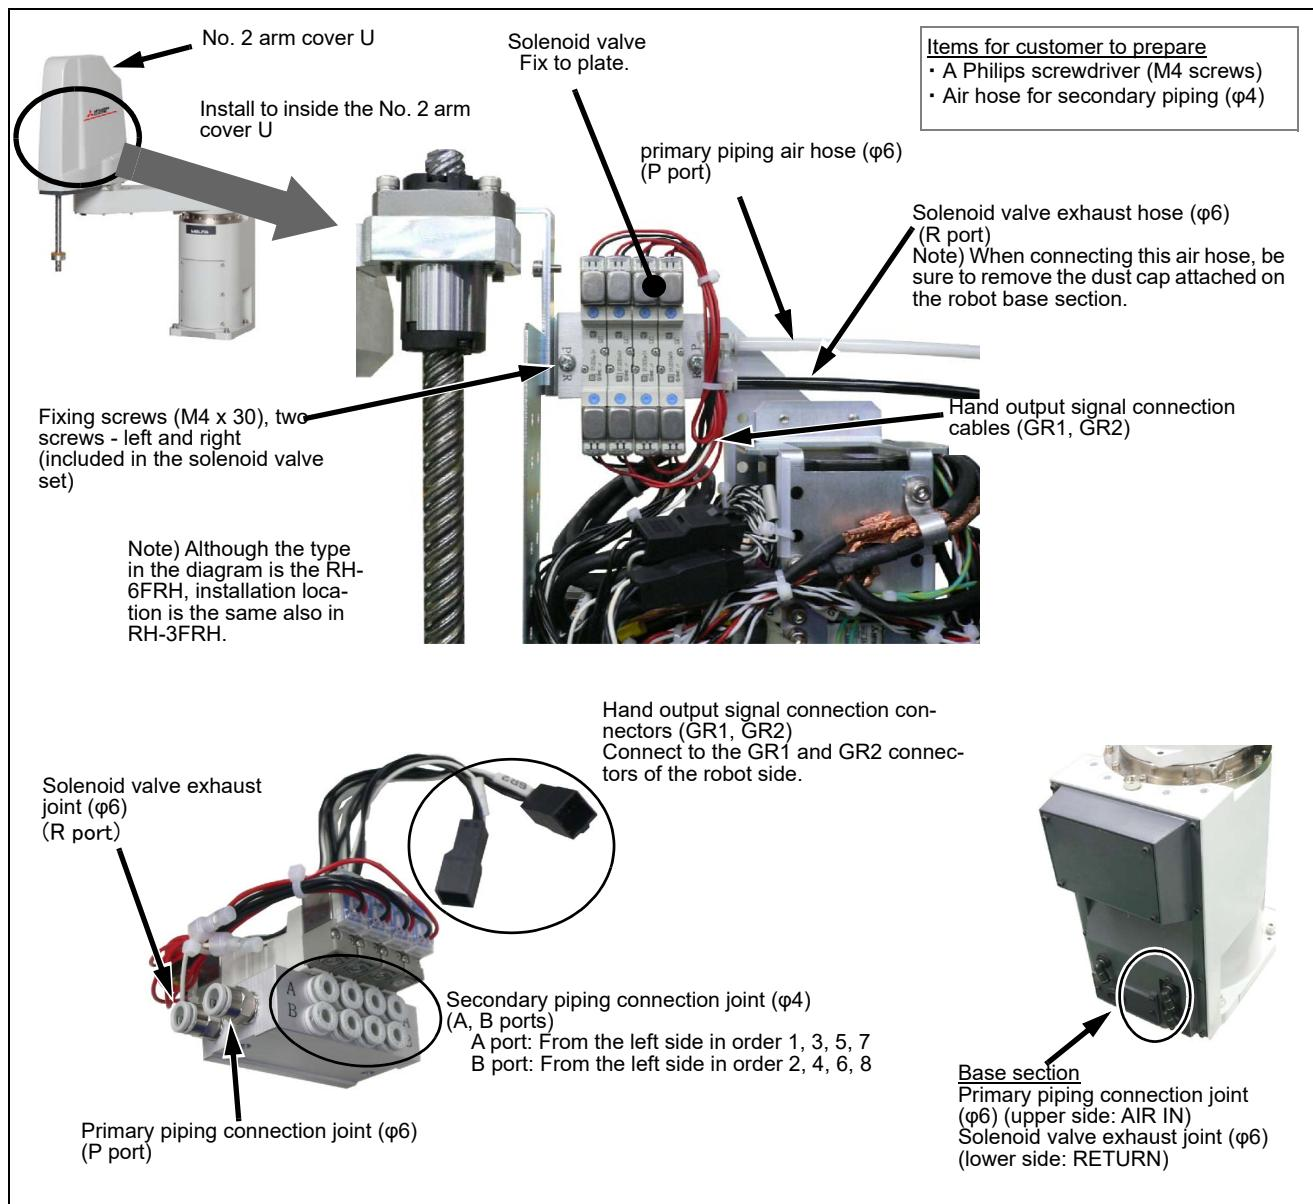

Fig.3-1 : Solenoid valve installation procedures (RH-3FRH/6FRH)
- 2) Fix the solenoid valve to the plate in the position indicated in Fig. 3-1. Place it so that the solenoid valve's primary piping connection joints (P, R ports) are located on the right hand side, and fix it securely using the M4 screws included (tightening torque: 1.39 to 1.89N · m).